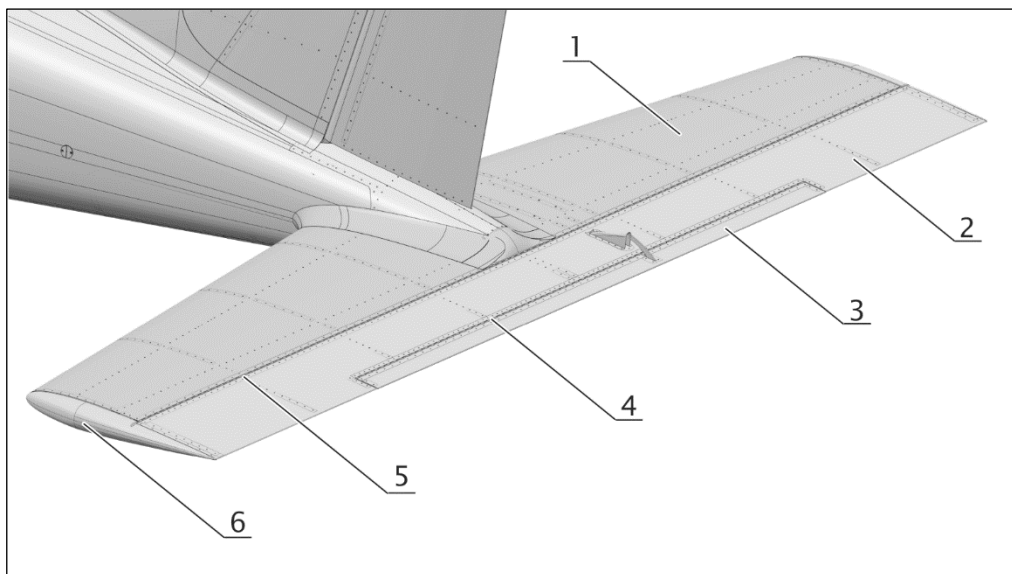
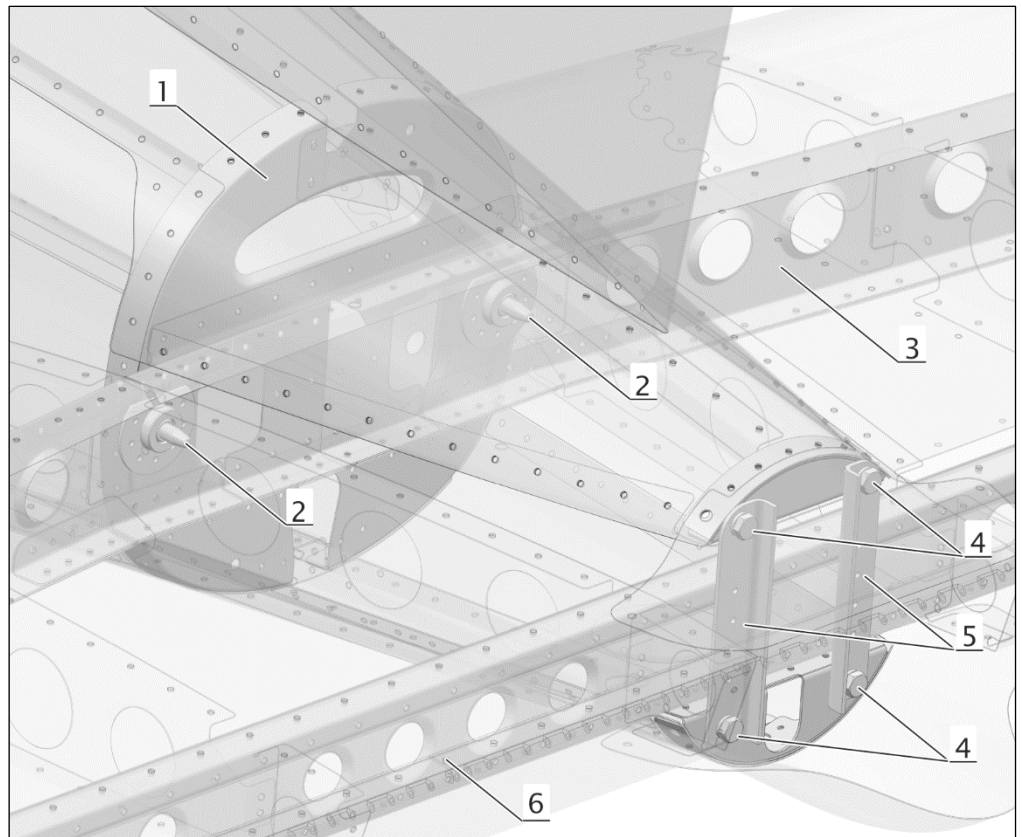

Figure 1 *Horizontal Stabilizer with Elevator*
Figure 2
The horizontal stabilizer (1) (see Figure 1) is an all-metal structure consisting of two aluminum spars, eight ribs and aluminum skins. The tips are made from composite. The horizontal stabilizer is mounted to the fuselage by means of front and rear attachments (see Figure 2). The front attachments consist of two mandrels (2), which are riveted on bulkhead No. 12 and bushings riveted on front stabilizer spar. The rear attachments consist of two brackets (5) riveted on rear stabilizer spar, which is bolted on top and bottom part of bulkhead No. 13.